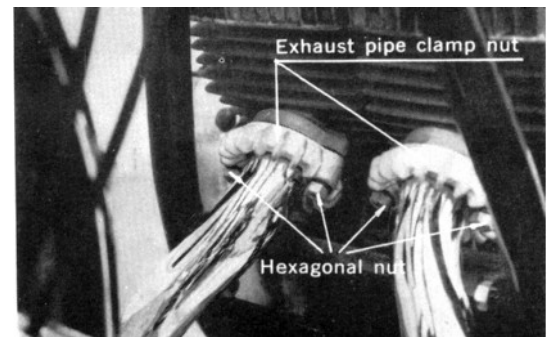

Fig. 3 Removing exhaust pipes
3. Remove both exhaust pipes by pulling out the four bolts. (Fig. 3)